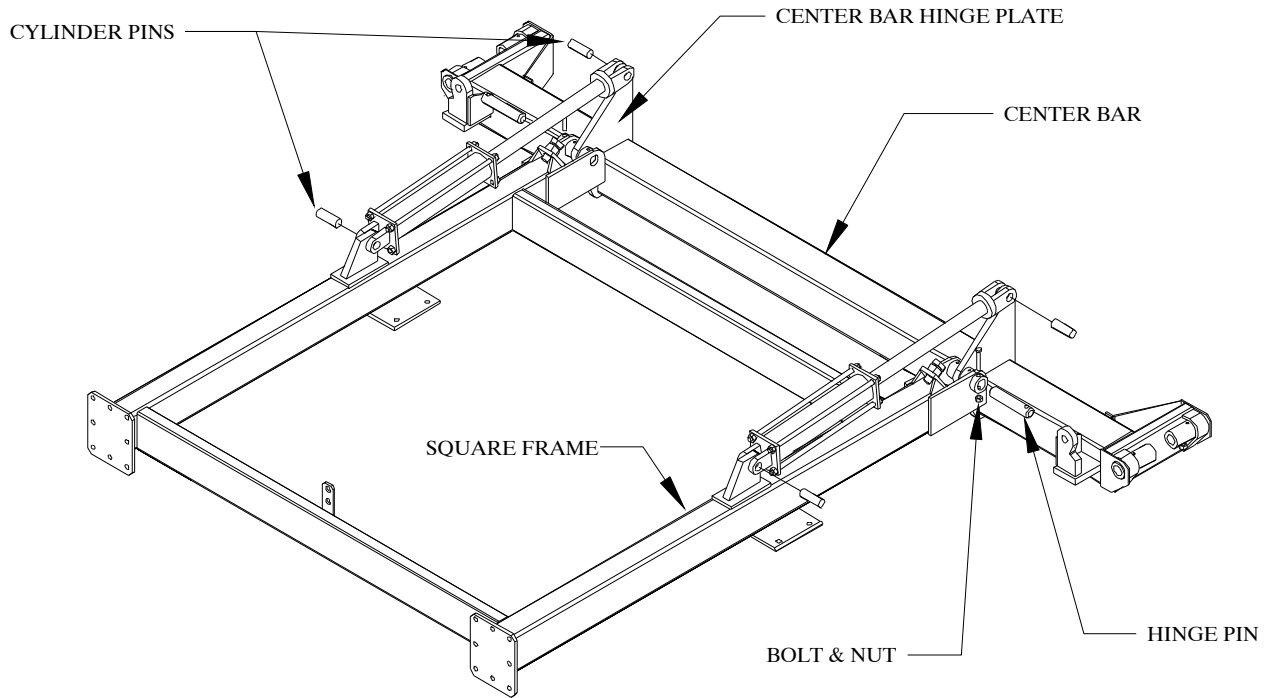

Figure 5
1. Attach the center bar to the square frame. Refer to Figure 5. Use the 1 1/2" x 7 1/16" hinge pins, 1/2" x 3" grade 8 bolts, and locking hex nuts.